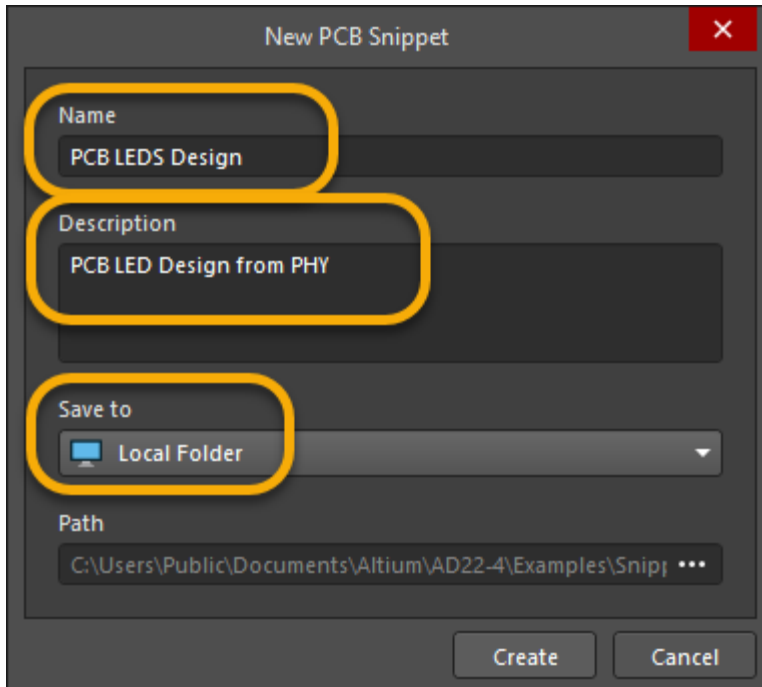

Figure 10. Creating PCB Snippet
- b) In the Description section, add a comment of `PCB LED Design from PHY` as shown in Figure 10.